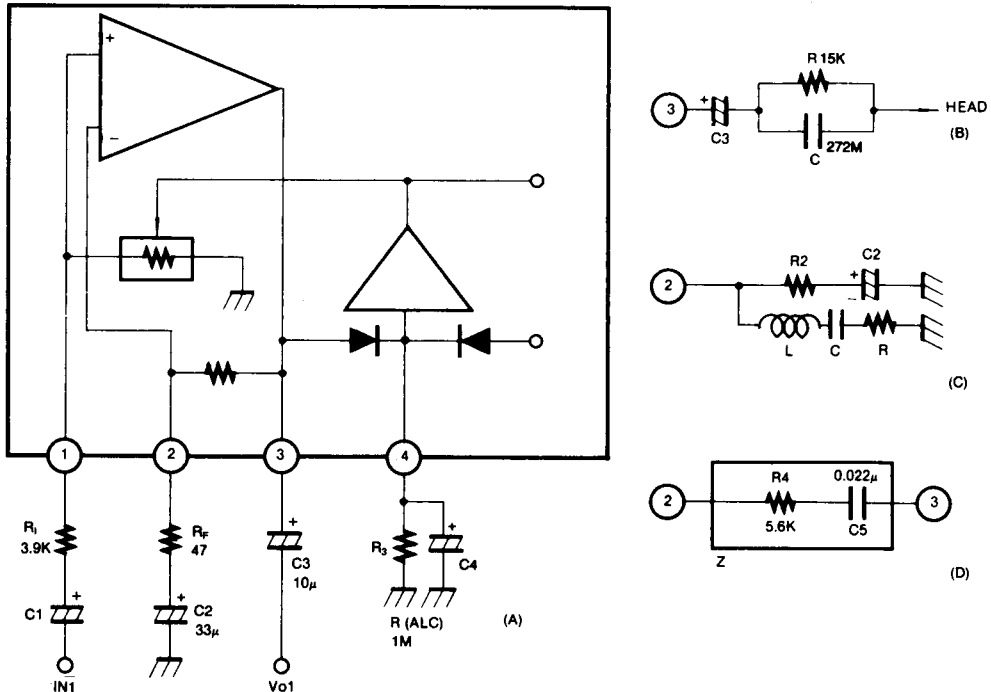

Fig. 3
2. Recording Amplifier (Figure 3 (A))
The recording amplifier requires a compensation circuit to correct loss at high frequencies. The compensation circuit may be either CR or LC resonance. The frequency response of the resonance circuit is fixed at 1–4KHz. An example using a CR is shown in Figure 3 (B), and one using LC resonance is shown in Figure 3 (C).
As the Figure 3, because the R_F range is $47 \sim 100$ ohm normally at the set application, the matching between R_3 and C_4 occurs.